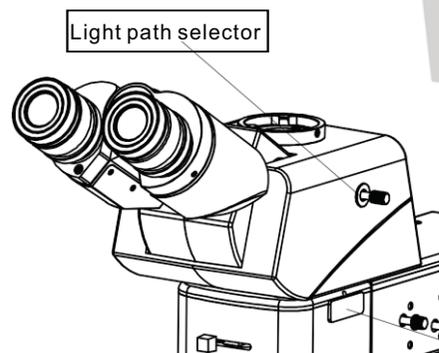

Fig.12
Push the light path selector ① to the innermost position, and the light enters the binocular for visual observation. (See Fig.12)When the selector lever is pulled to the outermost position, the light enters the three-way observation tube for photography.